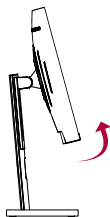

Figure 2
2. Adjust the display to the appropriate angle according to the direction of the arrow in Figure 2.